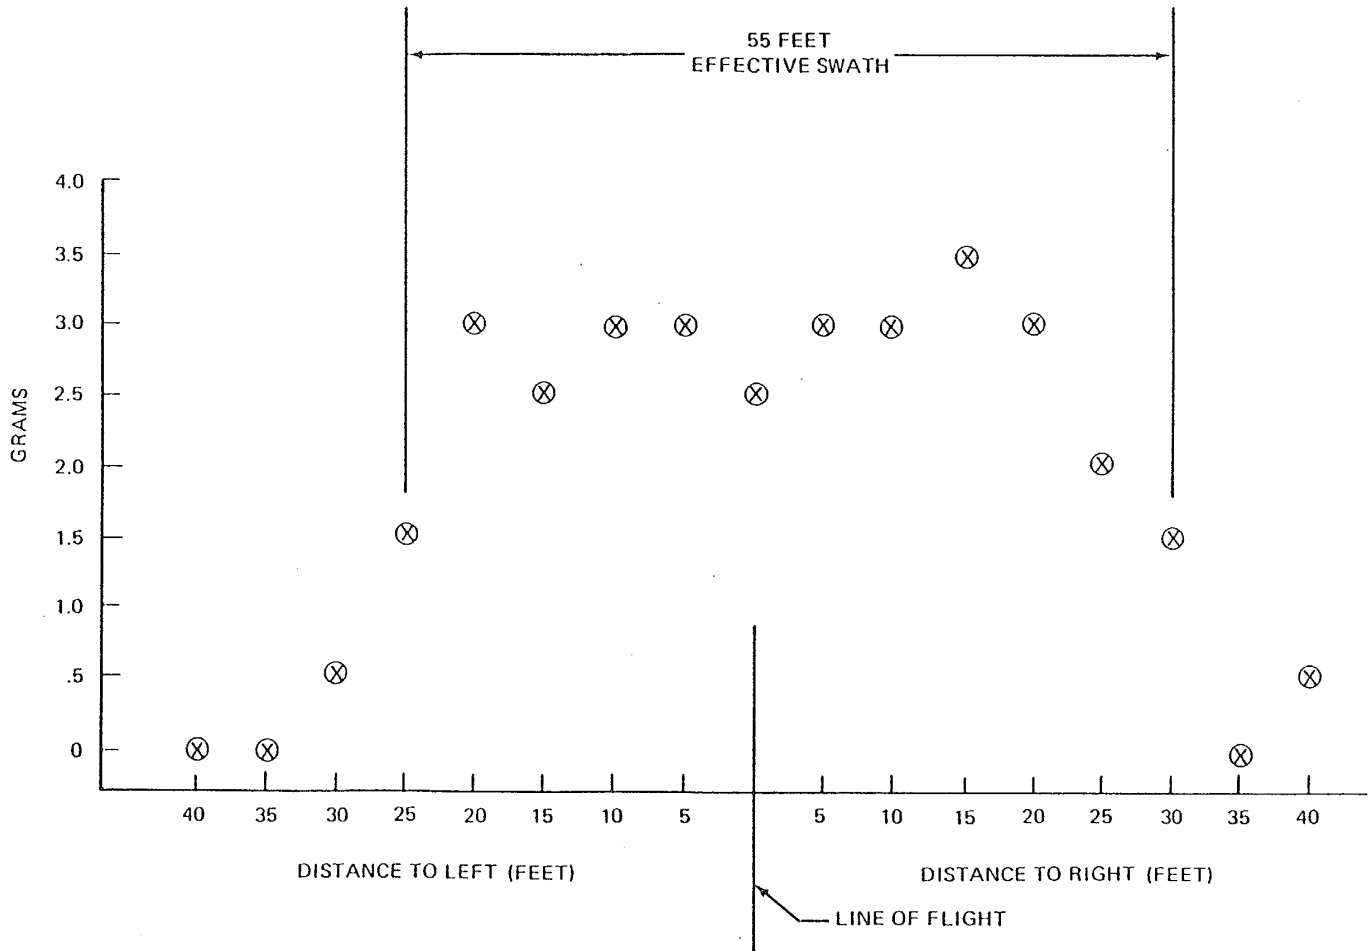

Figure 2-12. Effective Swath Width
- 4 Inspect each container until pesticide appears to be falling in area of containers (figure 2-12).